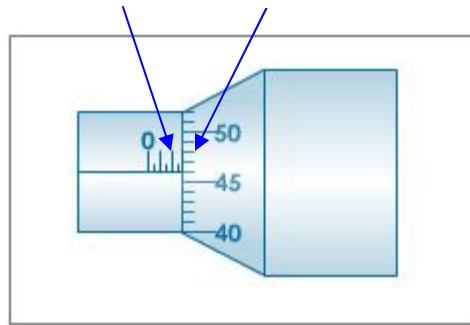

Fig. 3 Linear and circular scales of screw gauge
- As an example, to determine the diameter of a wire, the wire is to be placed between the anvil and spindle end, and the thimble is rotated till the wire is firmly held between the anvil and the spindle. The ratchet is provided to avoid excessive pressure on the wire. It prevents the spindle from further movement. The diameter of the wire could be determined from the reading as shown in Figure 3.
= 2.5 mm + (46 * 0.01) = 2.96 mm (for Figure 3)